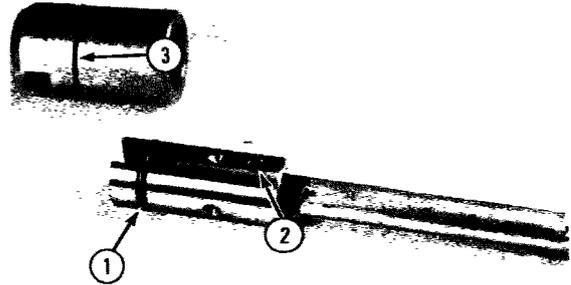

Fig. 2-48
- i. Separate the interlock control shaft and locking adapter (Fig. 2-48).
- j. Remove the "O" ring (1, Fig. 2-48) from the interlock control shaft. Remove the "O" ring (3, Fig. 2-48) from the locking adapter.
- k. Drive the rollpin (2, Fig. 2-48) out of the interlock control shaft and separate the two parts of the assembly.